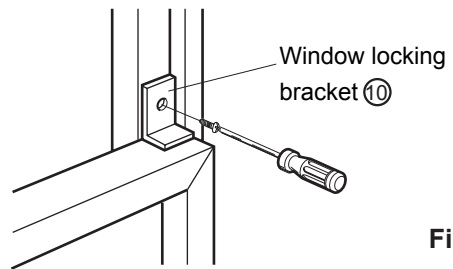

Fig. 9
12. Attach the Window Locking Bracket ⑩ with a Type C screw ③. (Fig. 9)